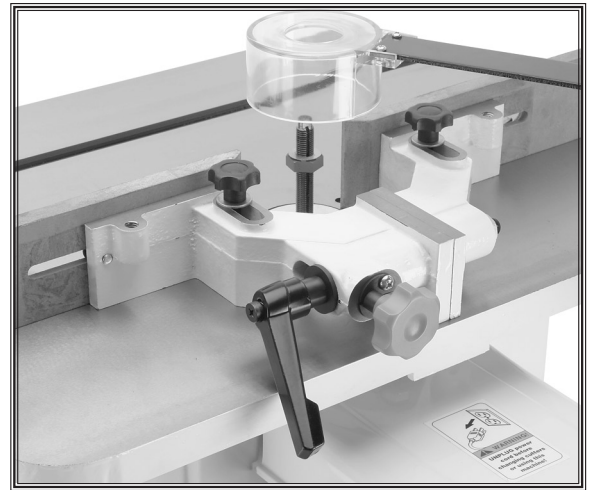

Figure 18. Fence mount lock handle and adjustment knob.
1. Loosen the fence mount lock handle shown in **Figure 18**.
2. Adjust the position of the fence by turning the adjustment knob shown in **Figure 18**.